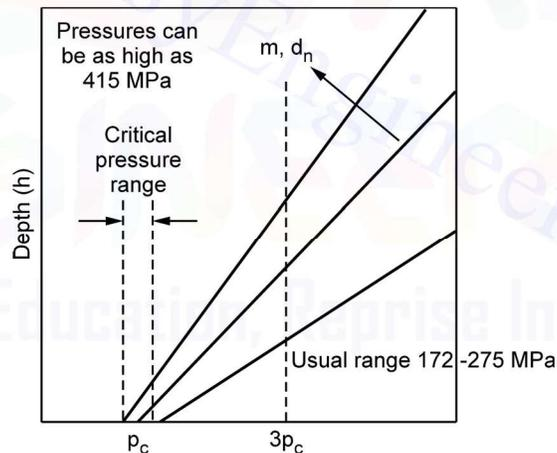

Fig. 1.15
- Fig. 1.15 shows the depth of cut is affected by varying the water flow rate (increasing the nozzle diameter) while maintaining the constant pressure.